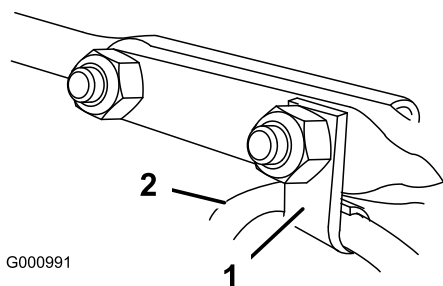

Figure 16
- Insert the cable clip that supports the deflector cable onto the forward carriage bolt, and secure the carriage bolts with locknuts from the loose parts bag (Figure 16).